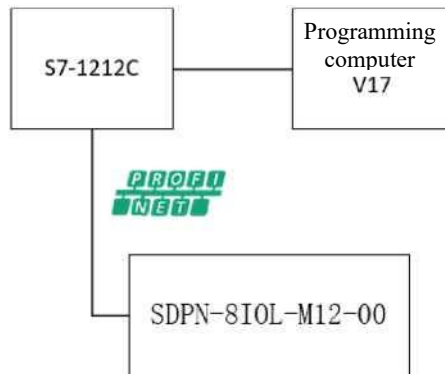

Figure 4-2-1-1 Communication connection diagram
1. The communication connection diagram is shown in Figure 4-2-1-1:
In the menu bar, select "Tools" >"Find PROFINET Device", select the network card connected to the module in the window and search for the device, select the module in the network and edit its device name, as shown in Figure 4-2-1-3 below.
Select "Tools">"PROFINET" from the menu bar. Select the PLC controller, as shown in Figure 4-2-1-4, add the master module, and assign the device name (the same as the device name assigned in Step 4) and IP address.
To add slave station module, click master module and delete port 1 object. In the right directory, add slave station module and click Generate, as shown in Figure 4-2-1-6 and Figure 4-2-1-7